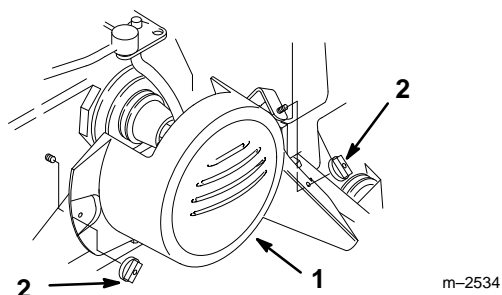

Figure 4
9. Remove the two wing nuts and belt cover from the tractor (Fig. 4).
18. Install belt cover (Fig. 4).